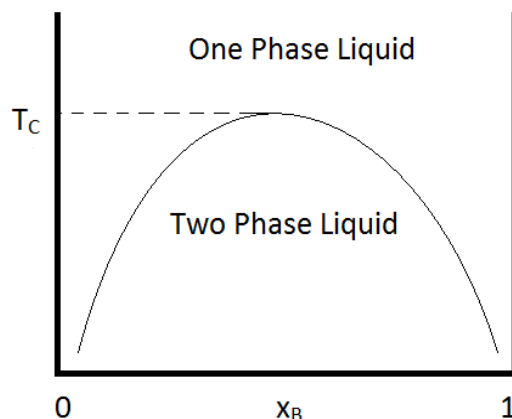

Figure 2 The temperature composition diagram of a mixture of A and B
2. In a boiling tube put 1 g of naphthalene, fit a thermometer in this tube then place it in a boiling water bath, as shown in Fig 2.